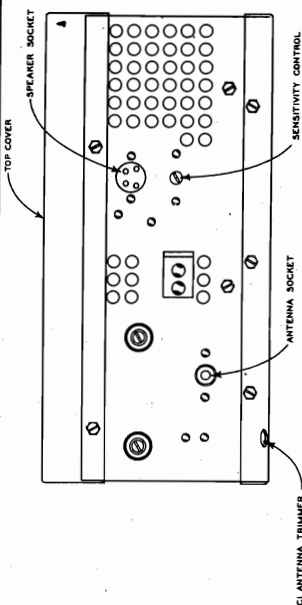

FIG. 4 BACK VIEW OF SET
Note: The Model 6FLD is equipped with an adjustable sensitivity control located in the position indicated in Fig. 4. This control is properly adjusted at the factory to provide a sensitivity of 7 microvolts at one watt output. The factory adjustment of this control provides as high a sensitivity level as possible without introducing excessive background noise. No attempt should be made to change the setting of the control unless laboratory equipment is available for measuring sensitivity.
1. Turn selector switch to "Manual Tuning" (D).
4. Adjust oscillator trimmer C-2C for maximum response. (See Fig. 4).
6. Adjust R-F trimmer C-2B (See Fig. 4) and the antenna trimmer C-39 (See Fig. 4) or maximum response.
3. Adjust the oscillator trimmer C-11, the RF trimmer C-7 and the antenna trimmer C-1 for maximum response, in the sequence given. (See Fig. 4 & 5 for trimmer locations.)
Note: The Model 6F2D is equipped with an adjustable sensitivity control located in the position indicated in Fig. 4. This control is properly adjusted at the factory to provide a sensitivity of 6 microvolts at one watt output. The factory adjustment of this control provides as high a sensitivity level as possible without introducing excessive background noise. No attempt should be made to change the setting of the control unless laboratory equipment is available for measuring sensitivity.